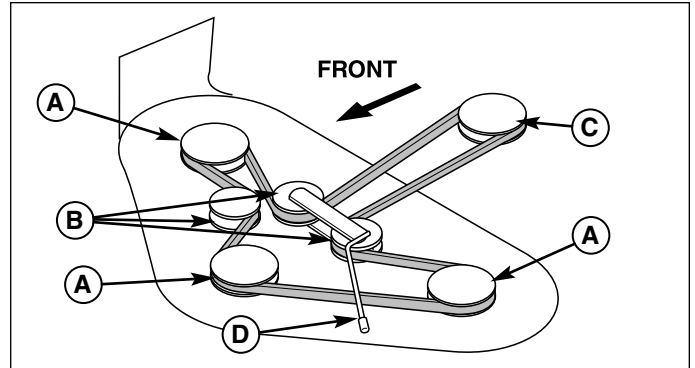
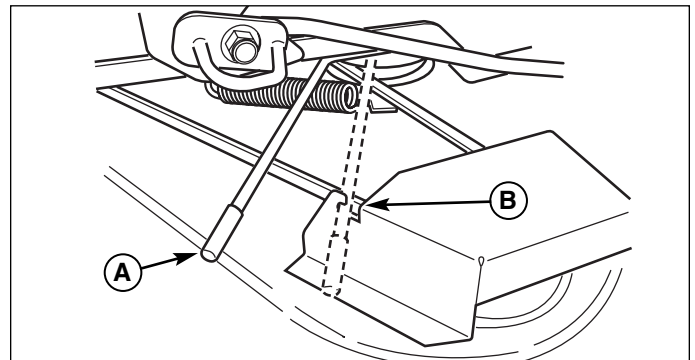

Figure 26. Mower Belt Routing
Figure 27. Release Belt Tension
2. Raise the mower deck to transport position. Pull the lever (A, Figure 27) towards the rear of the machine to release tension on the mower belt. Secure the lever in the guard notch (B).
3. Remove the old drive belt and install the new one as shown in Figure 26. Note that the back of the drive belt must ride against the back-side idler pulleys (B). Use the belt tension lever (A, Figure 27) to release tension on the idler pulley for installation.